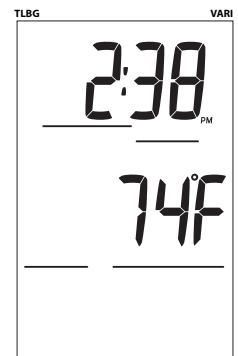

Fig. 54 - NO DECO ALT 2
**NO DECO ALT 2**, information includes (Fig. 54):